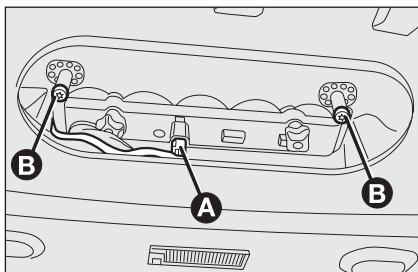

fig. 25
- disconnect the electric connector **A**-fig. 25;
- unscrew the two laterals pivots **B**-fig. 25;